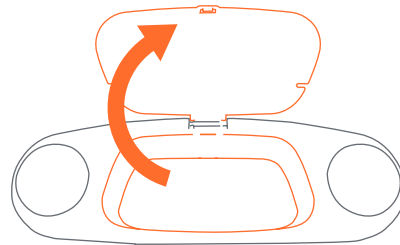

Fig. 10
- 10)** • The parent tray comes with a storage compartment with an easy to open lid (Fig. 10).